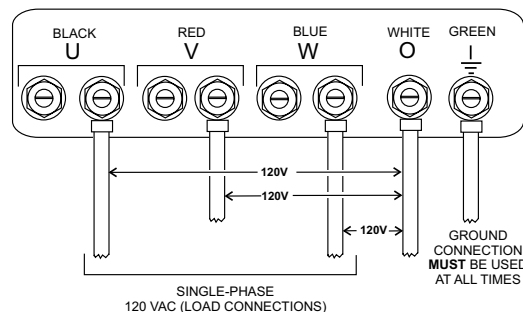

Figure 30. UVWO Terminal Lugs 1Ø-120V Connections
3. Connect the load wires to the UVWO terminals as shown in Figure 30